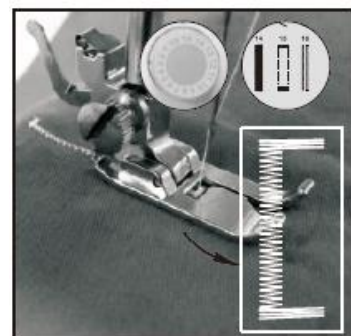

Fig.17
- 4) Choose the 15th stitch, then turn on switch and sew 5-6 stitches in low speed, then turn off switch (Fig.17).